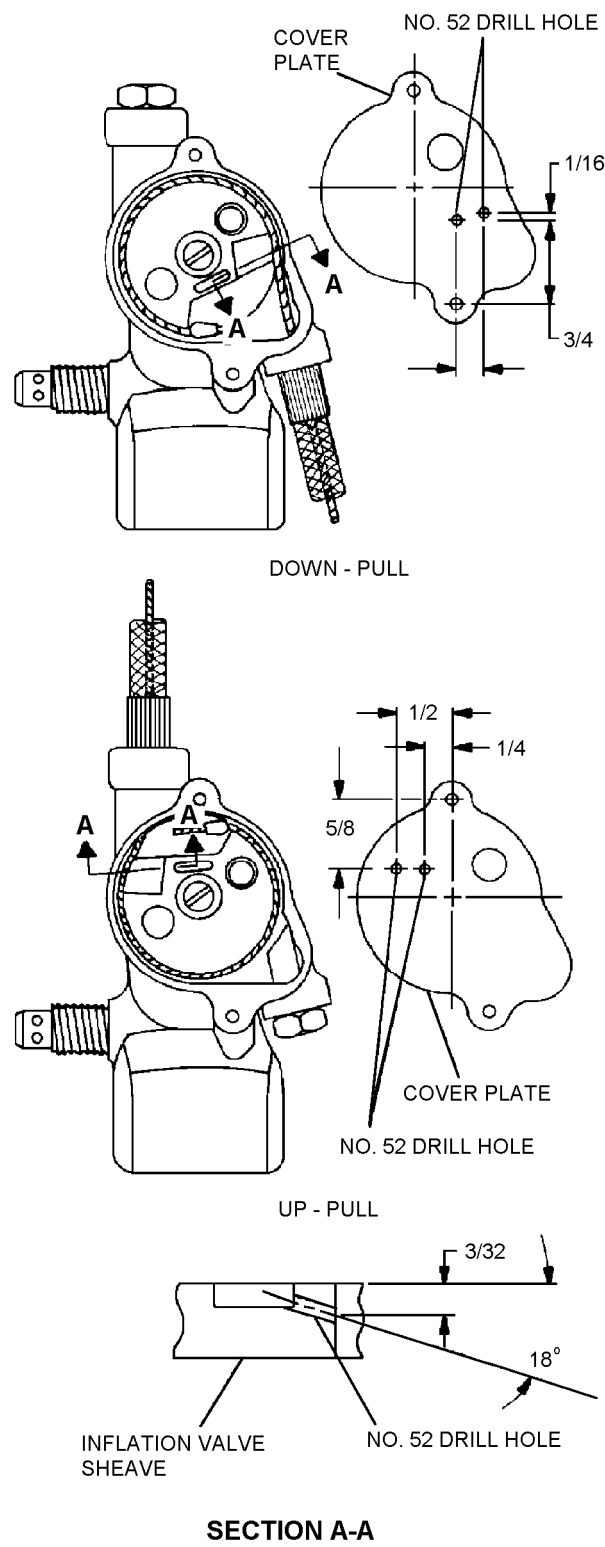

Figure 11-14. Drilling 871444 Inflation Valve
3. Using a no. 52 drill, drill two holes in cover plate. See figure 11-14.
6. Using a no. 52 drill, drill a hole at an 18° angle in valve sheave. See figure 11-14.